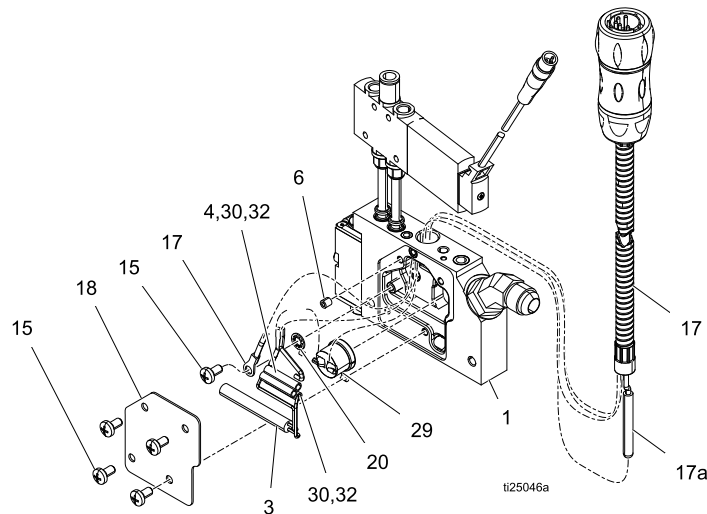

Figure 14 Repair Parts
See Fig 14, page 23.
11. Insert the RTD (17a) and thermal cutoff (29) into the manifold ports. See Fig 14.